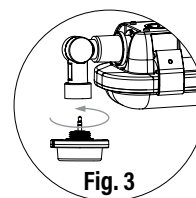

Fig. 3
3. Install sensor by screwing in clockwise until firmly seated. (Fig. 3 & 4)